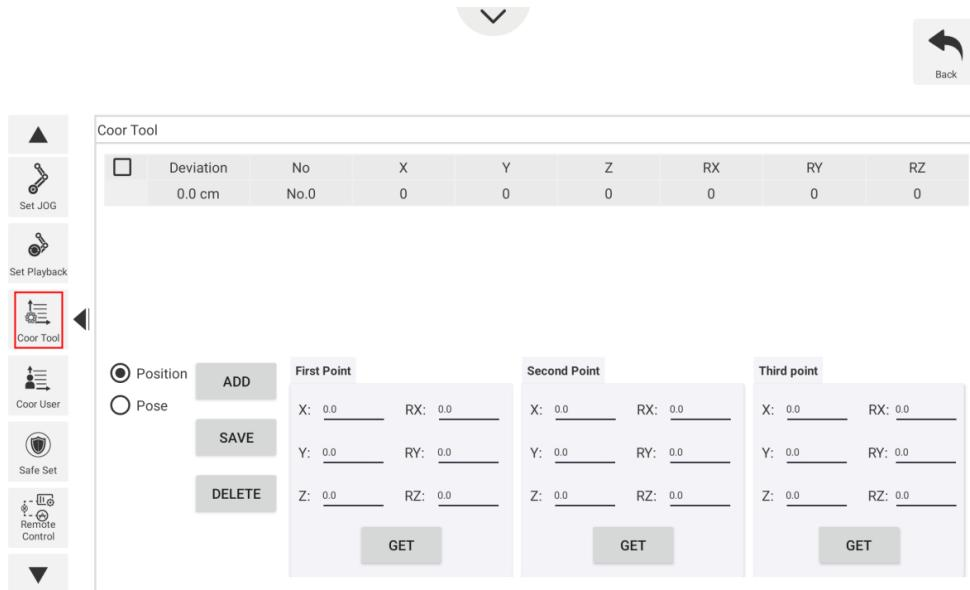

Figure 1.10 Tool Coordinate page
**Step 2** Click **Tool coordinate** on the **Setting** page. As shown Figure 1.10.